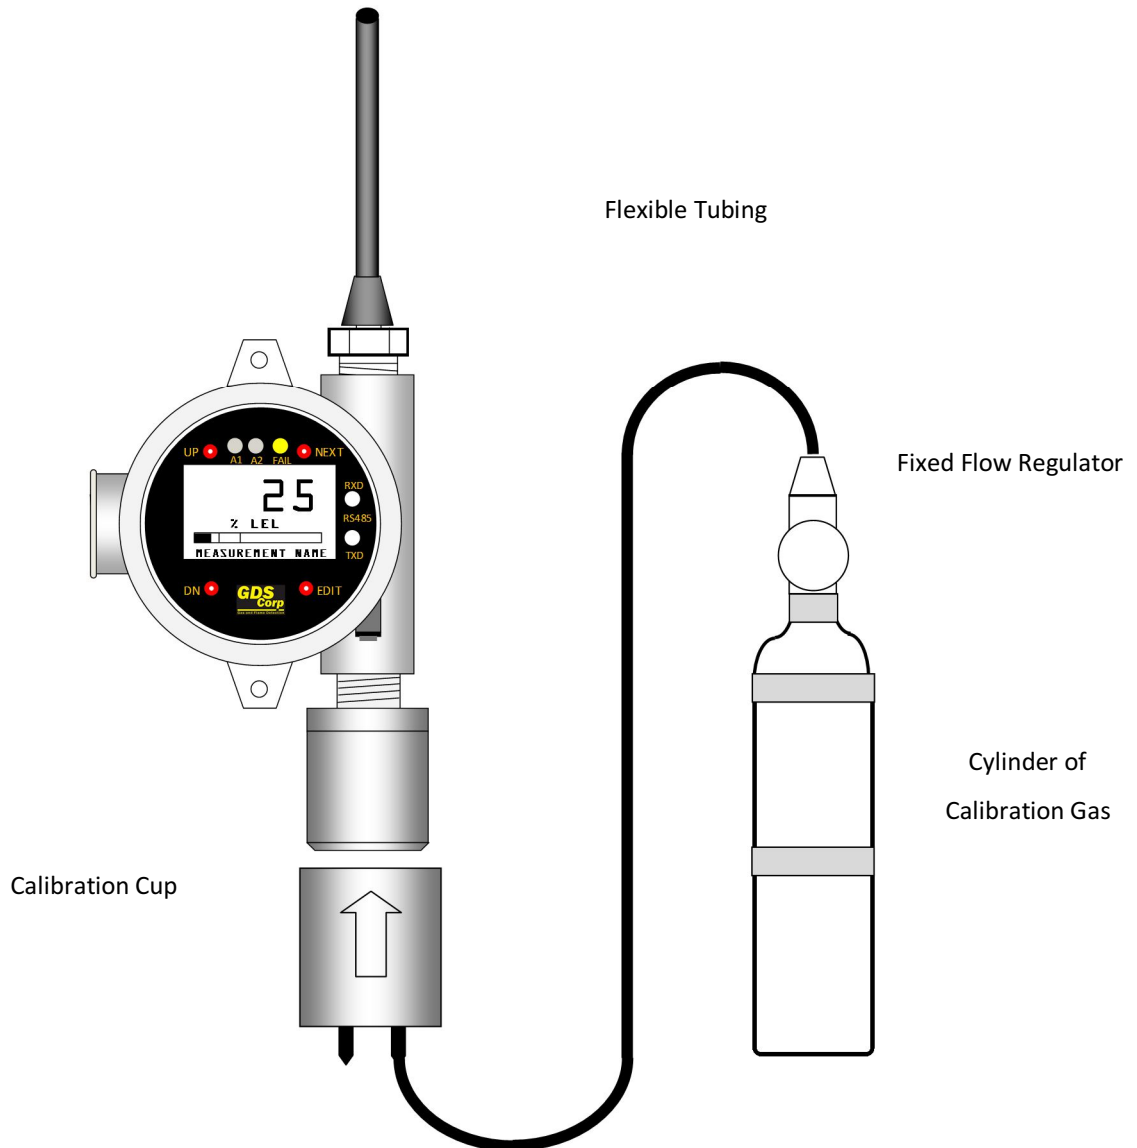

Figure 5-1: Calibration Setup
2. The screen will display an APPLY ZERO message. Using the setup shown in Fig. 5-1, apply clean ZERO air unless it can be guaranteed that no target gas is present. After the reading stabilizes, press the EDIT key to complete the ZERO calibration.